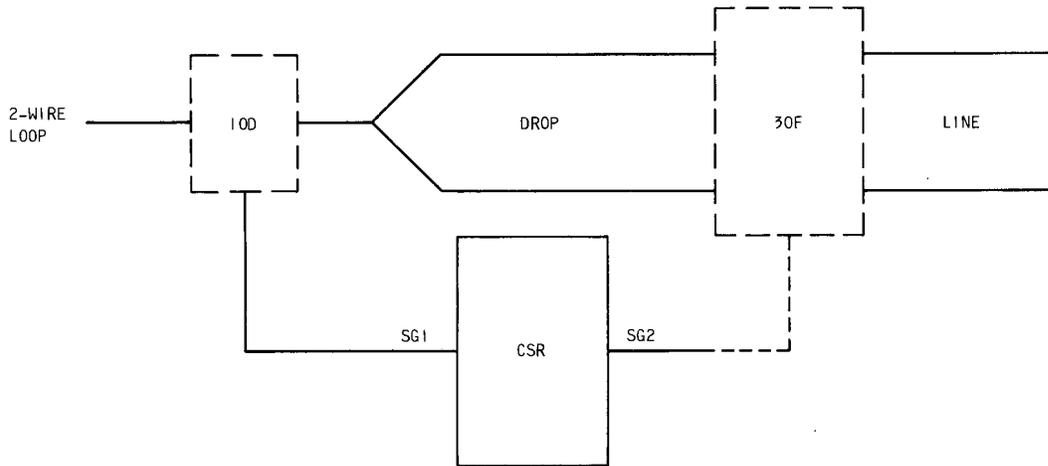

Fig. 6-5—CSR Shown in Typical Application
**6.12 Description:** The CSR (Fig. 6-5) is commonly used to select or count dialed pulses from 1 to 10 depending on the number for which it is wired. The CSR is used on multistation private line circuits.